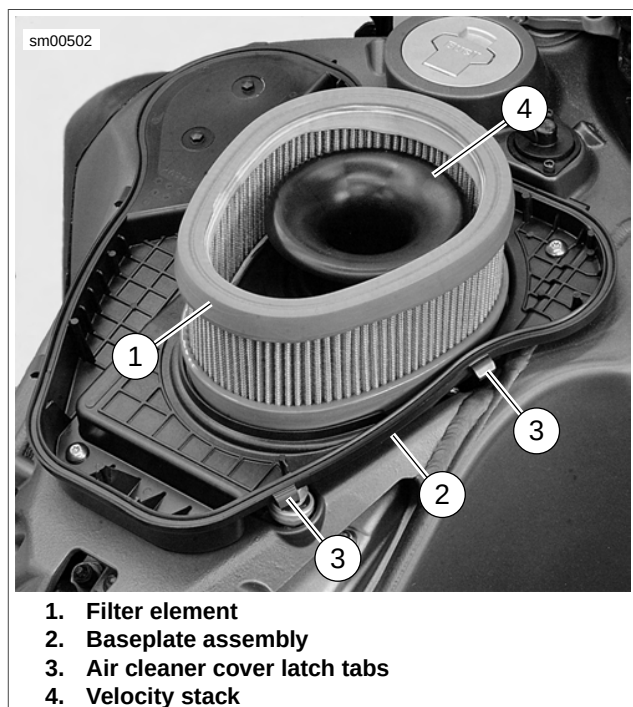

Figure 1-41. Installed Air Cleaner Filter Element
5. See Figure 1-41. Remove the filter element (1) from baseplate (2). Inspect and replace if necessary.